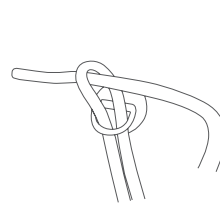

Fig 59 -
1. Push spliced loop of Dock Line through the stainless D ring (Fig 59).